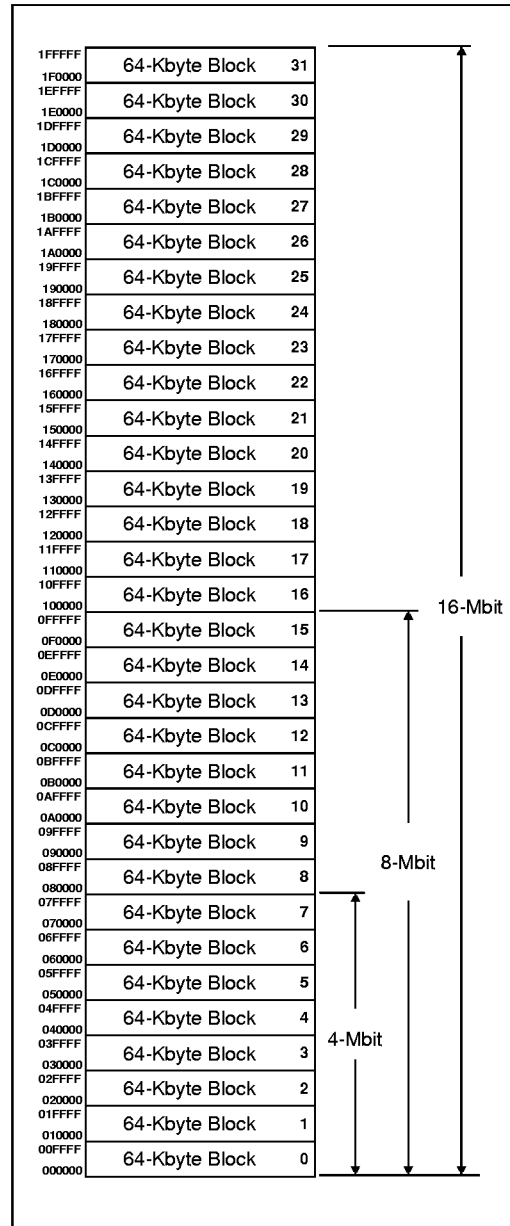

Figure 5. Memory Map
The 3 Volt FlashFile memory family provides density upgrades with pinout compatibility for the 4-, 8-, and 16-Mbit densities. The 28F004S3, 28F008S3, and 28F016S3 are high-performance memories arranged as 512 Kbyte, 1 Mbyte, and 2 Mbyte of eight bits. This data is grouped in eight, sixteen, and thirty-two 64-Kbyte blocks which are individually erasable, lockable, and unlockable in-system. Figure 5 illustrates the memory organization.
- X selects the specific block lock configuration code to be read. See Figure 5 for the device identifier code memory map.